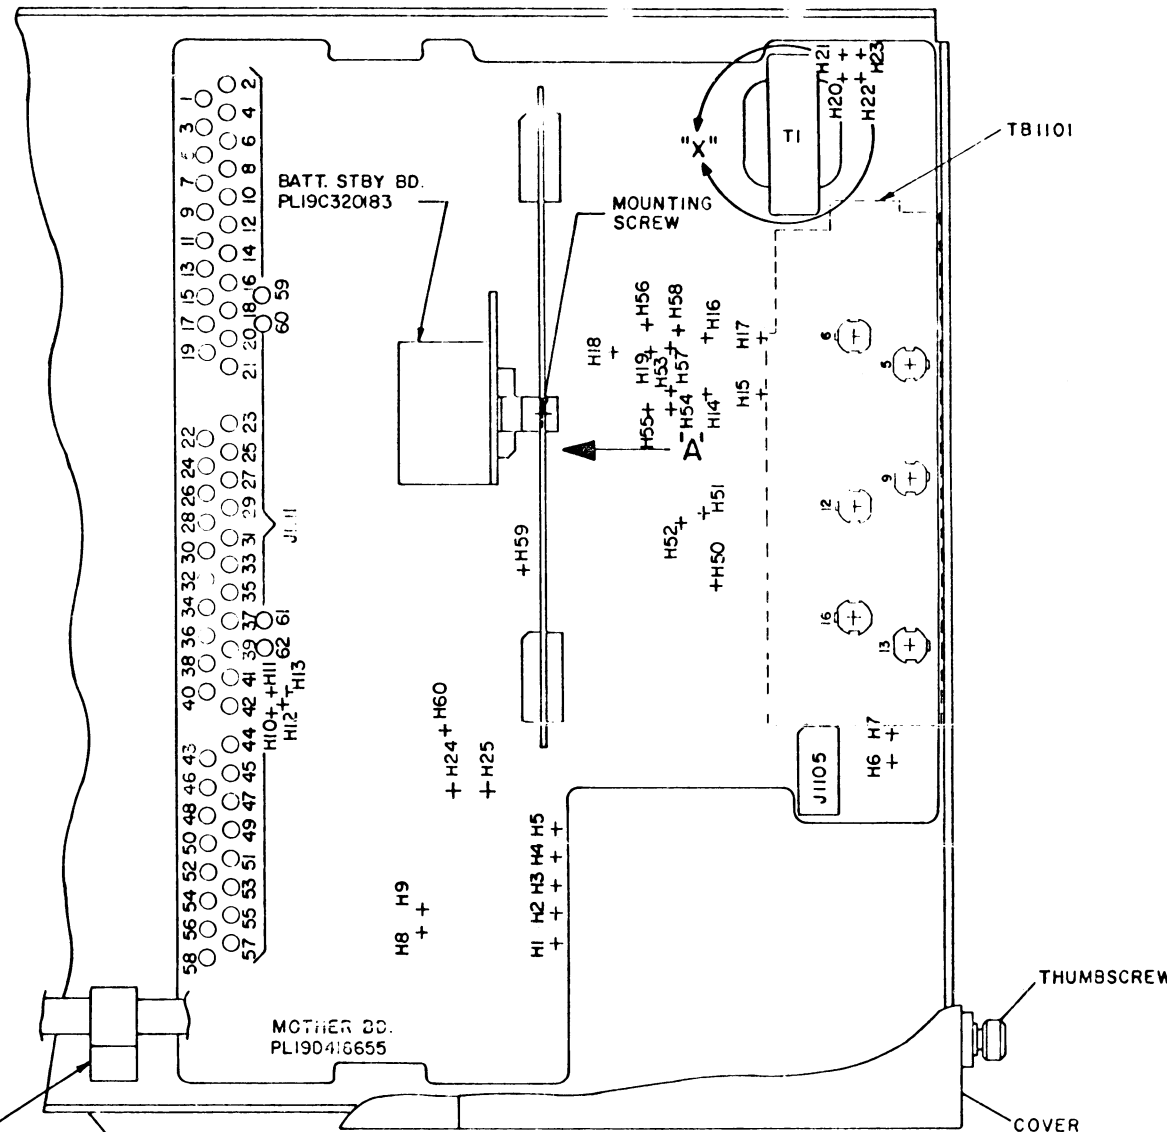

FIG. 3
5. MAKE CONNECTIONS AS SHOWN IN TABULATION. ROUTE WIRES TO J1111 THRU CABLE CLAMPS SHOWN IN FIG. 3, AND IN HOUSING. SPOT TIE TO EXISTING WIRING.